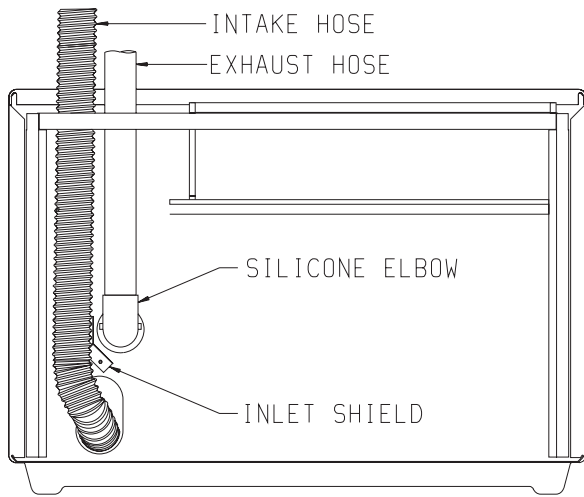

Figure 3
4. The inlet shield is used in a vertical run. It is attached on the casing back, adjacent to the elbow. The inlet shield prevents the inlet hose from touching the elbow. Attach inlet shield to casing back with two #10 x 1/2" (13mm) screw. **See Figure 3.**